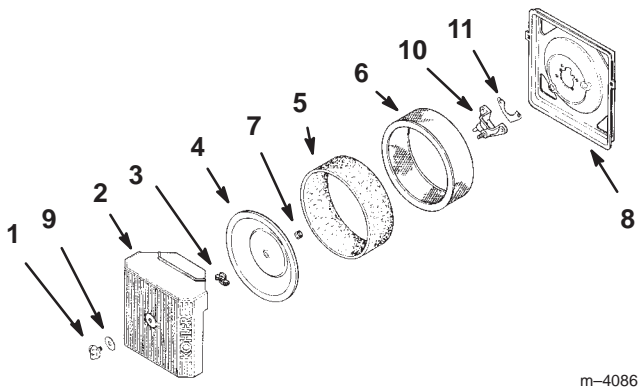

Figure 33
2. Clean around the air cleaner to prevent dirt from getting into the engine and causing damage. Unscrew the knob and remove the air cleaner cover (Fig. 33).
3. Carefully slide the foam element off the paper element (Fig. 33).
4. Unscrew the cover nut and remove the cover and paper element (Fig. 33).
1. Carefully slide the foam element onto the paper air cleaner element (Fig. 33).
- Place the air cleaner assembly onto the air cleaner base (Fig. 33).
- Install the air cleaner cover and secure with cover nut (Fig. 33).